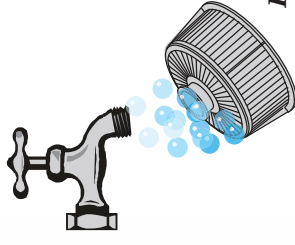

Fig. 3
- Remove the surface filters, clean them under running water (Fig.3) and then drain the sump water.